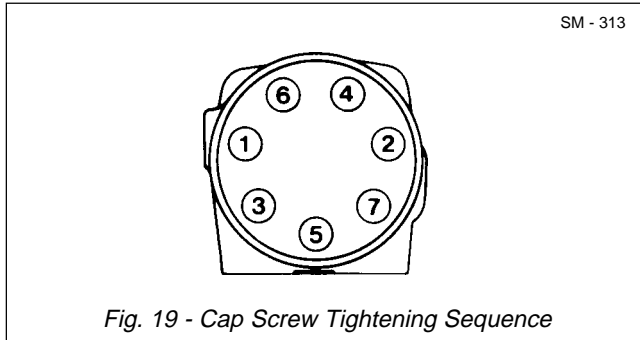

Fig. 19 - Cap Screw Tightening Sequence
18. Align cap screw (1) holes and install seven dry cap screws (1) in end cap (2). Pre-tighten cap screws (1) to 17 Nm (12.5 lbf ft) then tighten to a torque of 34 Nm (25 lbf ft), in the sequence shown in Fig. 19.